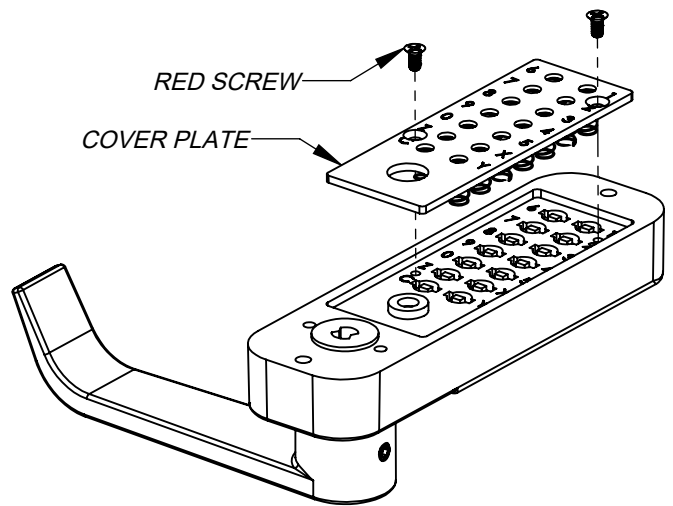

Figure 2
1) Use a screwdriver to remove the two red screws on the back side of the outside body, and set the cover plate aside, making sure to keep the springs attached to the cover plate (Figure 2). Note that the red code pins are used for the selected passcode buttons, and the blue code pins are used for the non-passcode buttons. Do not remove the unpainted code pins used for the C and Y buttons.